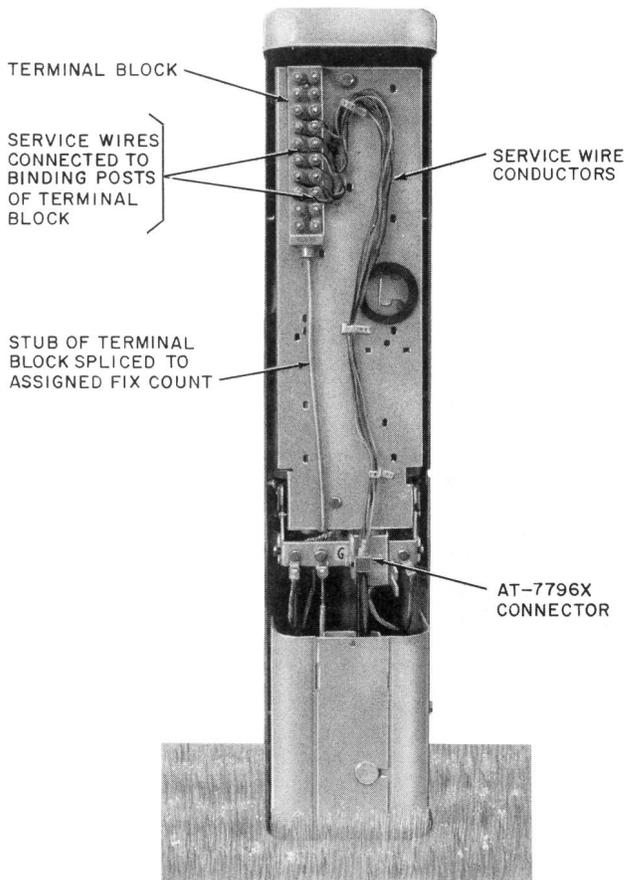

Fig. 10—Service Wires Terminated in PC6/48 Cable Closure—Fixed Count Mode
- PC6/48 (Fig. 10)
binding post on the terminal block as shown in Fig. 10, 11, and 12.